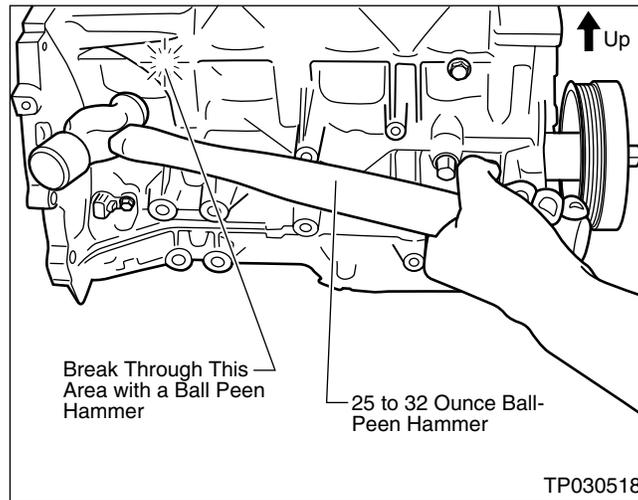

Figure J1
1. Use the “ball” end of a 28 to 32 ounce Ball-Peen Hammer to break a hole in the engine block at the location shown in Figure J1 (below).